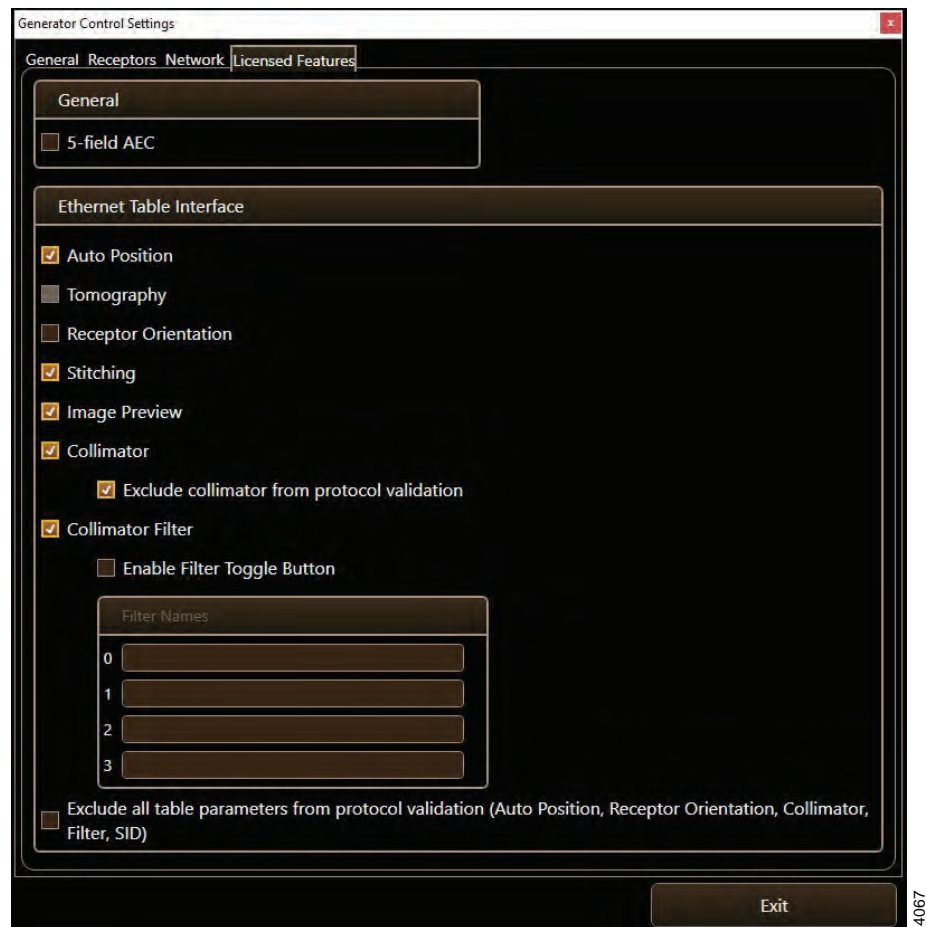

Fig. 5-10
9. The licensed features settings shall be configured according to Fig. 5-10 .